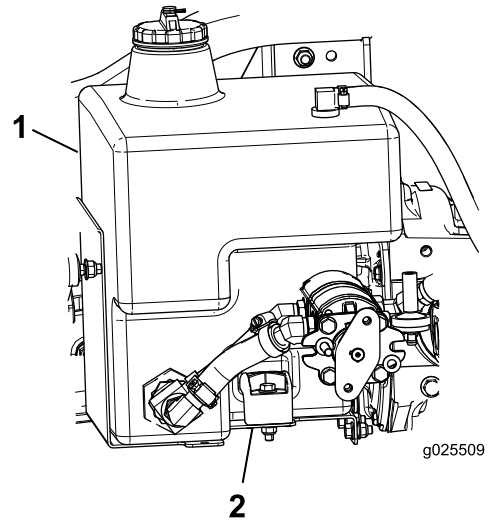

Figure 4
2. Remove the straight fitting to allow the fluid to drain out (Figure 4 and Figure 11). Discard the straight fitting.
3. Remove the bolt and bracket holding the hydraulic tank (Figure 4).